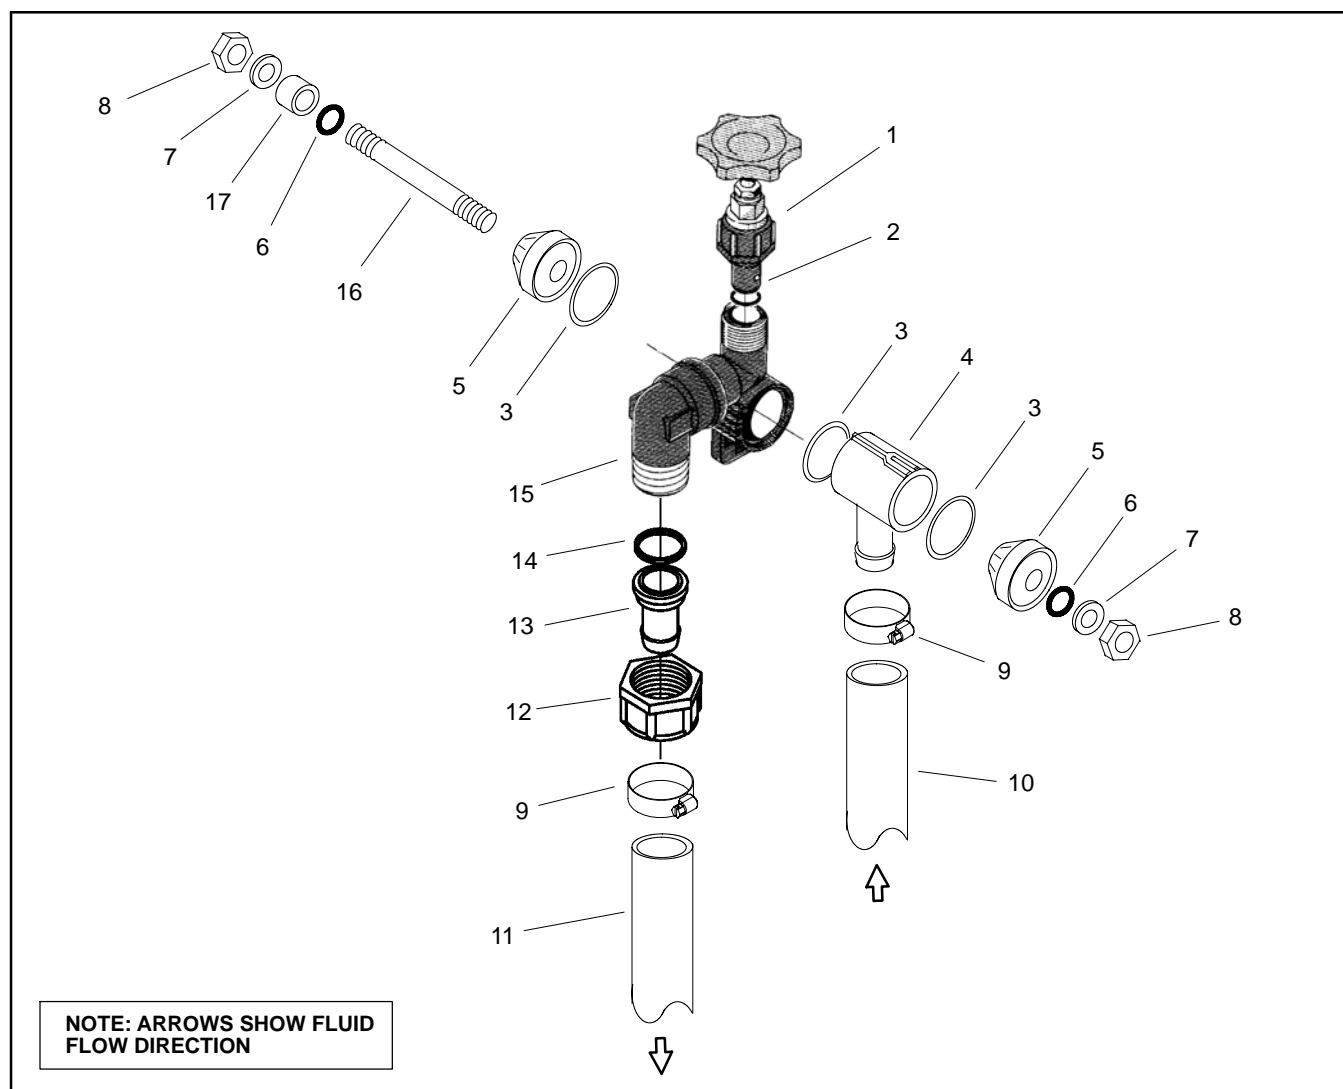

Figure 33
Disassembly (Fig. 33)
2. Disassemble pressure control valve using Figure 33 as a guide. Discard all removed O-rings.
Assembly (Fig. 33)
1. Assemble pressure control valve using Figure 33 as a guide. Replace all removed O-rings.